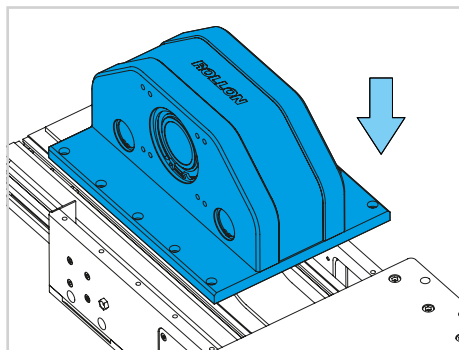

Fig. 16
- 9) Re-assembly the driving head plate (see Fig. 16).